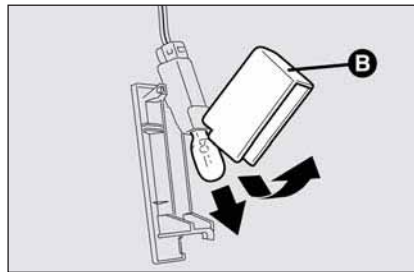

fig. 42
- open the protection **B**-fig. 42 and replace the snap-fitted bulb;
- re-close the protective cover **B**-fig. 42 on the transparent;